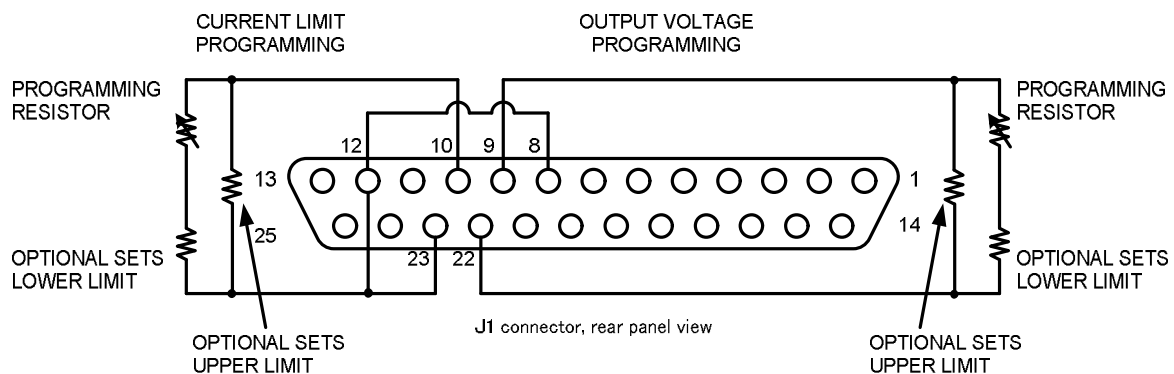

Fig.5-2: Remote resistive programming
6. Connect the programming resistors to the mating plug of J1-22(VPGM\_RTN), J1-23(IPGM\_RTN) as shown in Fig.5-2.